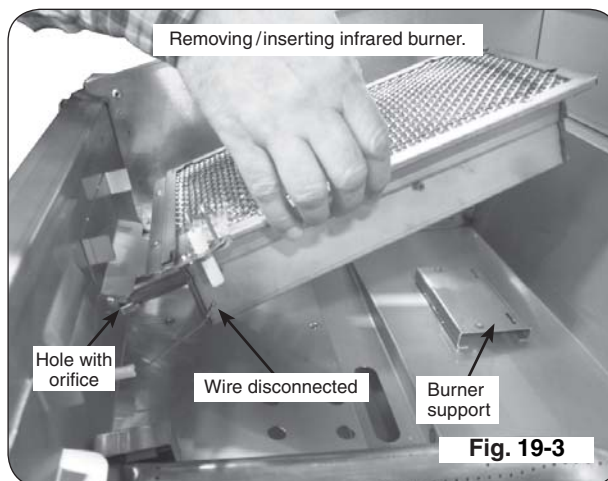

Fig. 19-3
4. Carefully lift the infrared burner from the burner support and out from the hole in the forward fire wall (see Fig. 19-3).
5. Using a $\frac{3}{8}$ " socket, remove the orifice from the valve. Access this through the hole in the forward firebox plate (see PARTS LIST and Fig. 19-3). Check the number stamped on the face of the orifice (see Table 1).